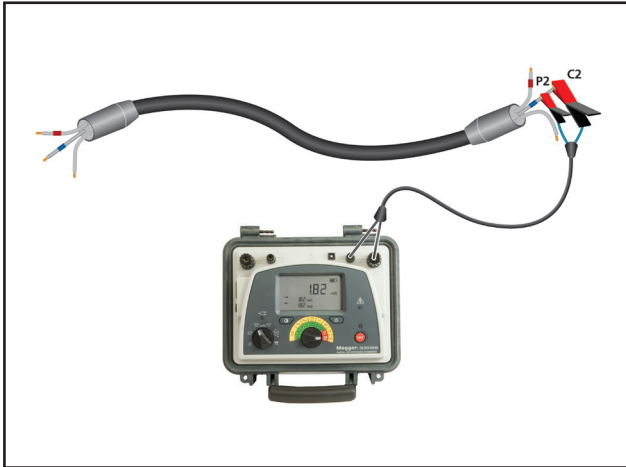

Fig 10: The C2 and P2 shown as separate cables from a meter to one of the cores
Step 1: Connect the current and potential leads C2 and P2 to the core under test. In Fig 10 it is the core with the blue marker.